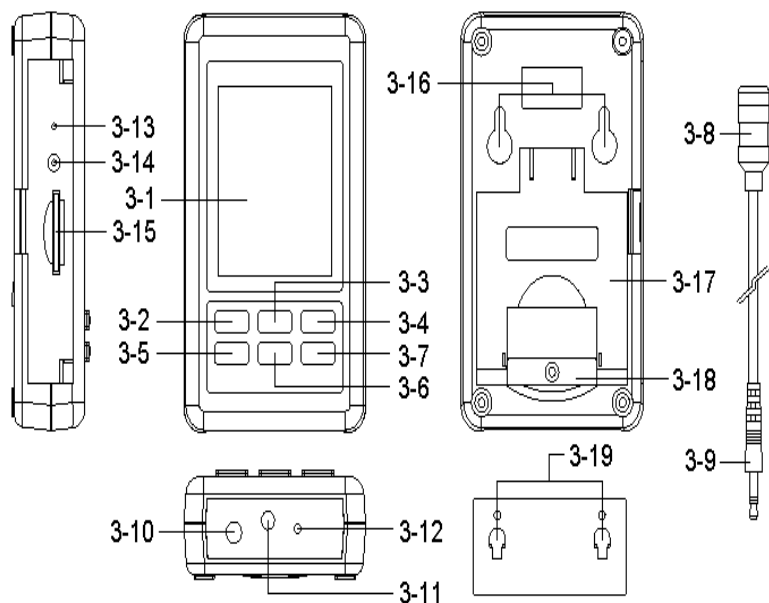

Fig. 1
- 1) Power ON the meter by pressing and holding the " Power Button " (3-2, Fig. 1)for at least 1.5 seconds, the meter's default function is " A"(frequency weighting) , " Fast"(time weighting) " Auto range ". The LCD display will show the Symbol " A, FAST , xx.x dB , 0 ".
- 3) According to various measuring sound source, select the Time Weighting (Fast or Slow) by pressing " ENTER Button " (3-7 , Fig. 1).
- 1) In " SPL" mode to select the " **Dose** " mode by pressing and holding the" RUN button" (3-4 Fig 1) into the DOSE mode .
- 4) According to various measuring sound source, select the Time Weighting (Fast or Slow) by pressing the "ENTER Button " (3-7, Fig. 1).
During the SPL measurement, press the " ▲ Button " (3-3, Fig. 1) once will hold the measured value & the LCD will display a " HOLD " symbol.
- 1) The data record function records the maximum and minimum readings. Press the " RUN Button " (3-4, Fig.1) once to start the Data Record function and display is shown the " REC " symbol .
- a) Press the " RUN Button " (3-4, Fig. 1) once, the " REC MAX " symbol along with the maximum value will appear on the display. Press the " RUN Button " again the " REC MIN " symbol along with the minimum value will appear on the display. Press the " RUN Button " again will show the " REC " symbol only & execute the memory function continuously.
After power ON, the " LCD Backlight " will light automatically. During the measurement, press the " POWER Button " (3-2, Fig. 1) once will turn off the " LCD Backlight ". Press the " POWER Button " once again will turn ON the " LCD Backlight " again.
Pressing and holding the " ENTER Button " (3-7, Fig. 1) once , display is shown " LOGGER " , the " LOGGER " will flashing at the same time the measuring data along the time information will be saved into the memory circuit(EEPROM). and the top right will record items.
During execute the Datalogger function , if press the " ENTER Button " (3-7, Fig. 1) once will pause the Datalogger function (stop to save the measuring data into the memory circuit temporality). In the same time the text of " LOGGER " will stop flashing.
If press the " ENTER Button " (3-7, Fig. 1) once again will execute the Datalogger again, the text of " LOGGER " will flashing .
Press the " ENTER Button "(3-7, Fig. 1) continuously at least two seconds, the " LOGGER " indicator will be disappeared and finish the Datalogger.
Prepare a " SD memory card " (1 GB to 16 GB, optional), insert the SD card into the " SD card socket " (3-15, Fig. 1). The front panel of the SD card should face against the down case.